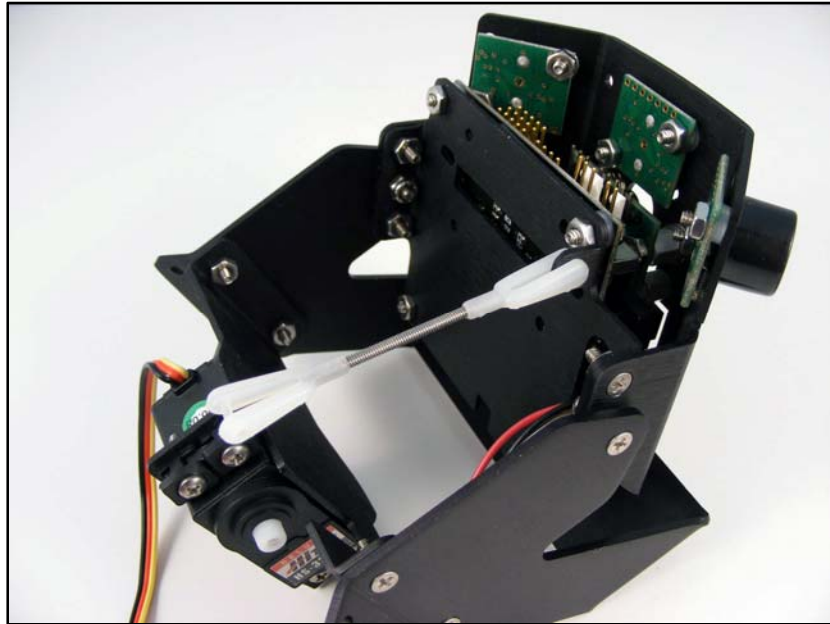

Figure 33
- 18.) Attach one end of the linkage to the Cam Plate as shown in Figure 33.